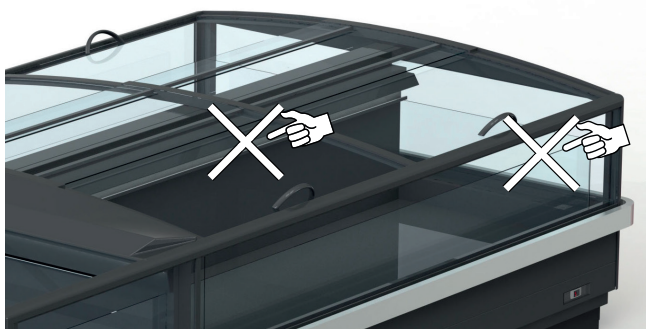

Fig. 13
- The goods do not obstruct the correct flow of refrigerated air ("Fig. 13").